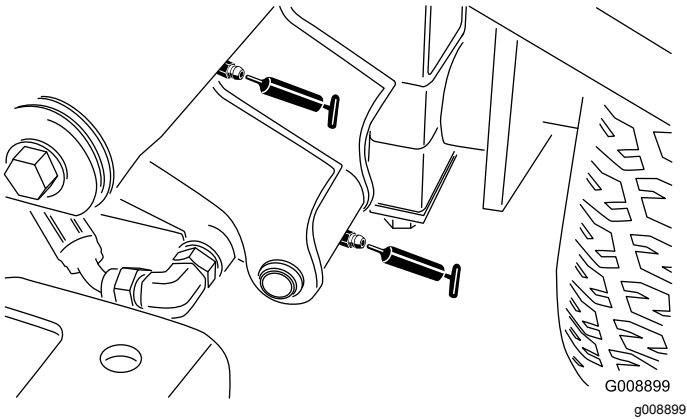

Figure 61
- Left front lift arm pivot and lift cylinder (2 fittings—Figure 61)